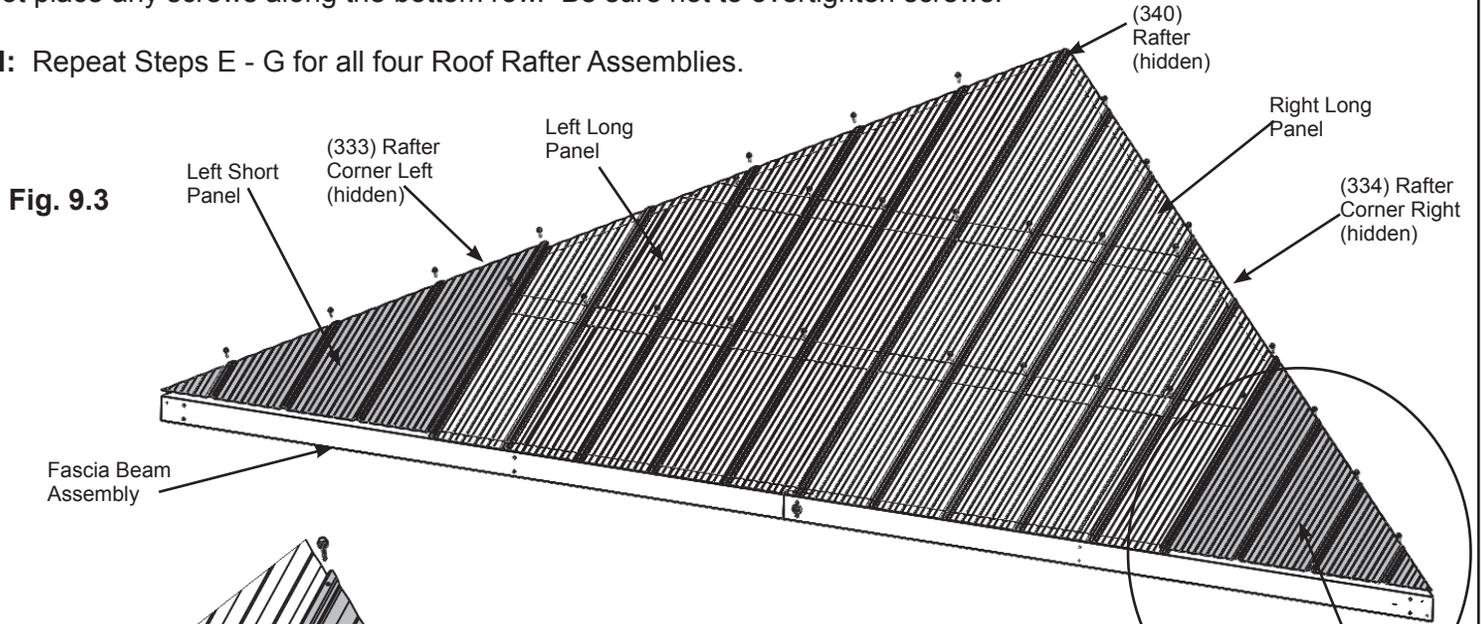

Fig. 9.3
E: Place one Left Short Panel on Roof Rafter Assembly so it overlaps the Left Long Panel and it is flush to the sides of (333) Rafter Corner Left and a slight overhang at the bottom of the Fascia Beam Assembly. There should be no overhanging at the corners. (fig. 9.3 and 9.4)
F: Place one Right Short Panel on Roof Rafter Assembly so it overlaps the Right Long Panel and it is flush to the side of (334) Rafter Corner Right and a slight overhang at the bottom of the Fascia Beam Assembly. There should be no overhanging at the corners. (fig. 9.3 and 9.4)
G: Attach all panels to Roof Rafter Assembly with 29 #8 x 1" Roofing Screws in locations shown in fig. 9.3. Do not place any screws along the bottom row. Be sure not to overtighten screws.